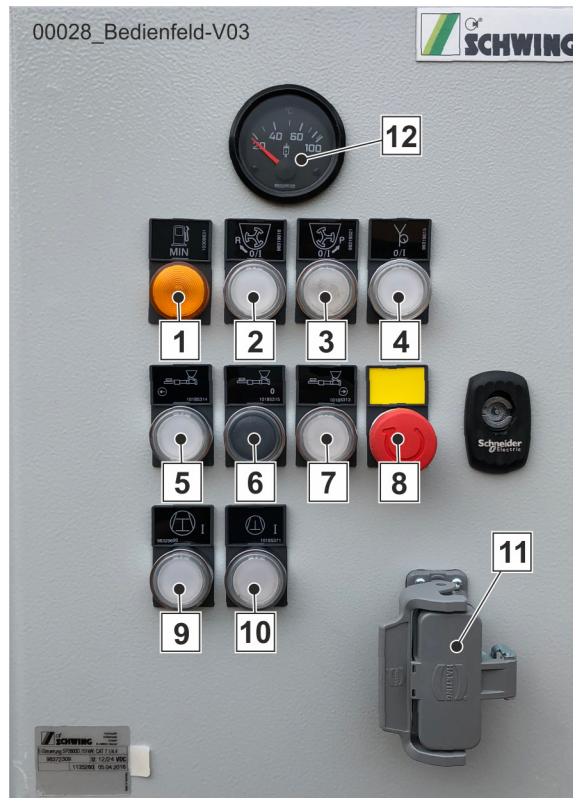

Fig. 95 Control panel
- Switch on the compressor using the button (10) (Fig. 95).
- Switch off the compressor using the button (10) (**Fig. 95**).